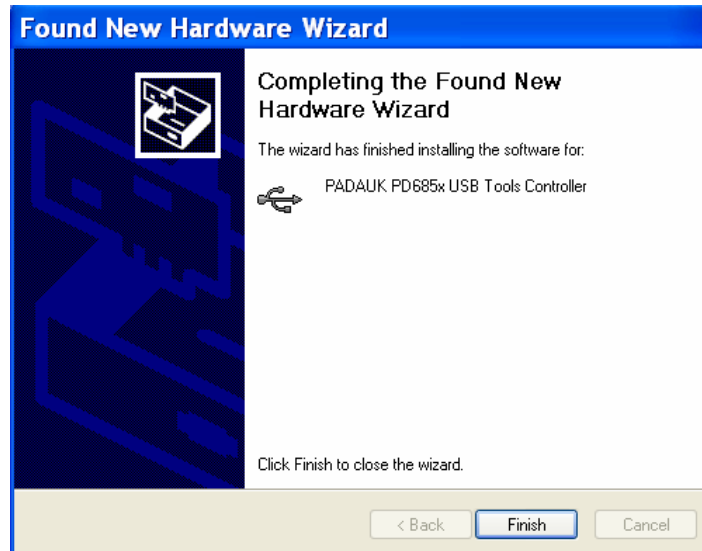

Fig.3-12 : The window of finishing installing
Step 7 : Click **【Continue Anyway】** to continue installing . After finishing installing , the window will be shown as Fig.3-12 . Then, the USB device driver is installed successfully .